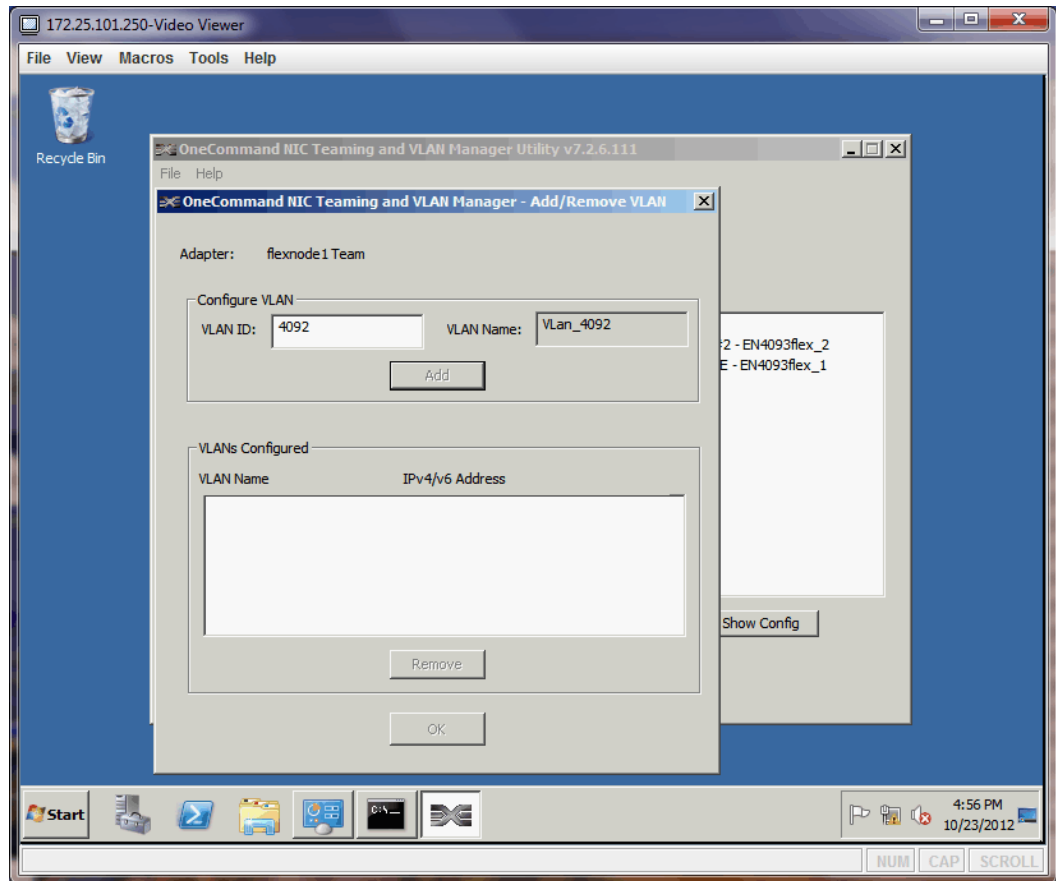

Figure 5-8 Adding VLAN 4092 to the NIC Team
7. In the VLAN ID field, enter “4092”, as shown in Figure 5-8, and click **Add**.